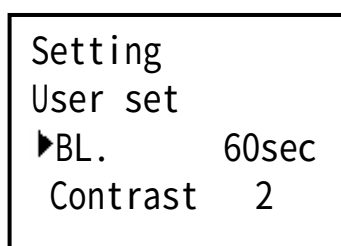

Fig.22 : user setting information
- Select and confirm client setting, then see Fig. 22.